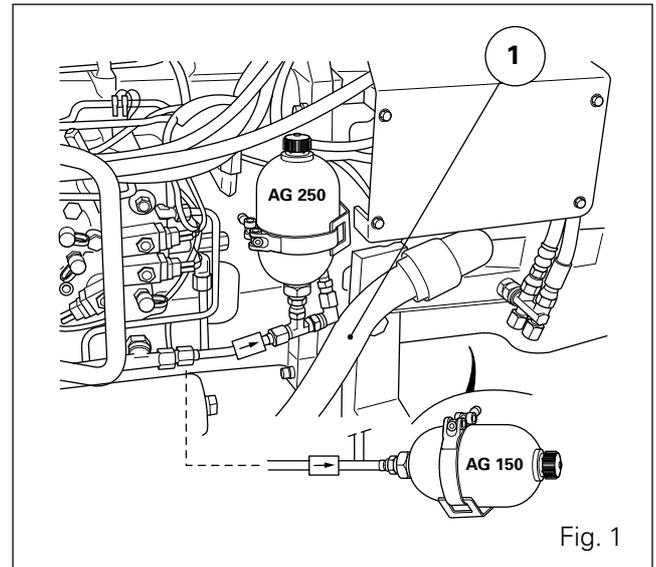

Fig. 1
22. Remove suction pipe (1) (Fig. 1) at the Gerotor pump, and the elbow unions fitted on the intermediate housing and the Full Powershift gearbox.